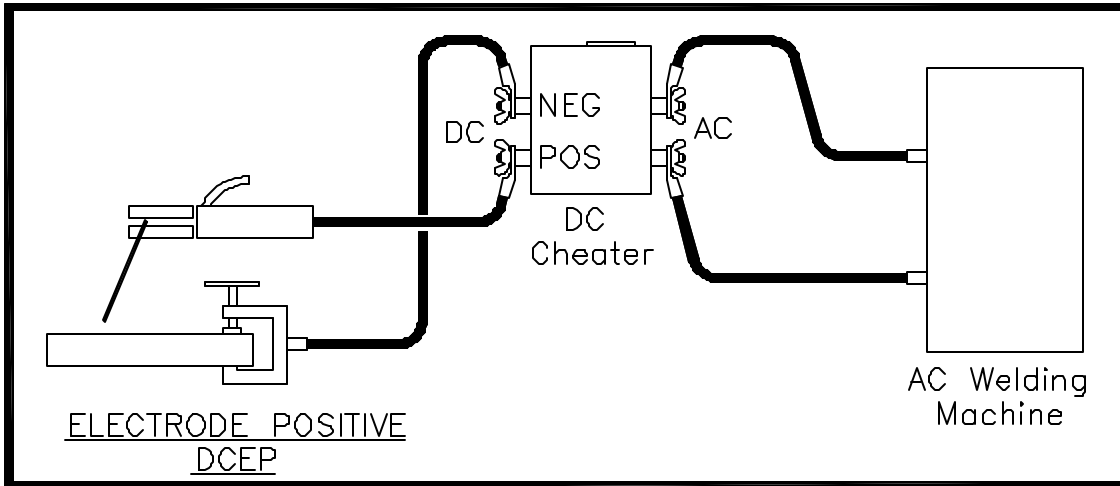
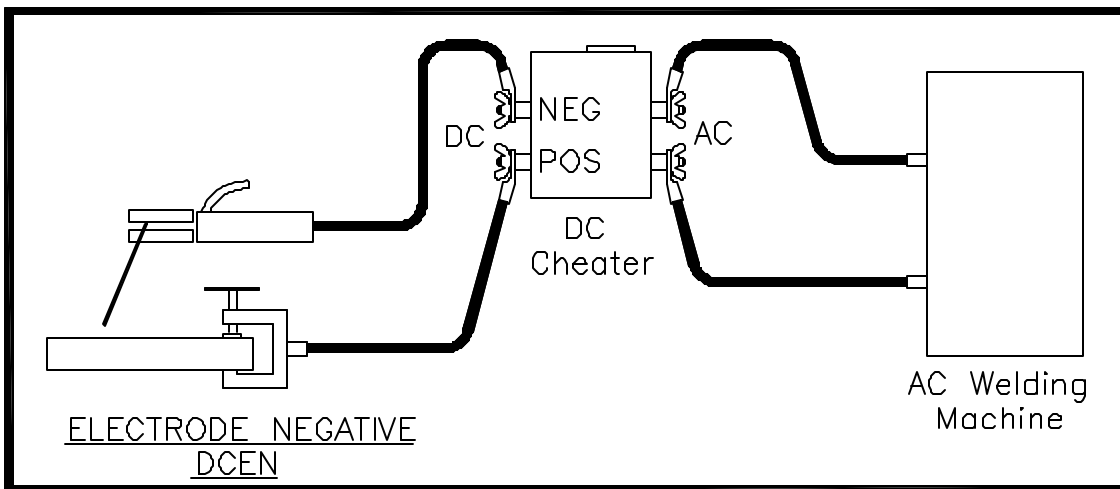

Figure 1
Figure 2
- Connect the welding cables for either DCEP (See figure 1) or DCEN welding (See figure 2).